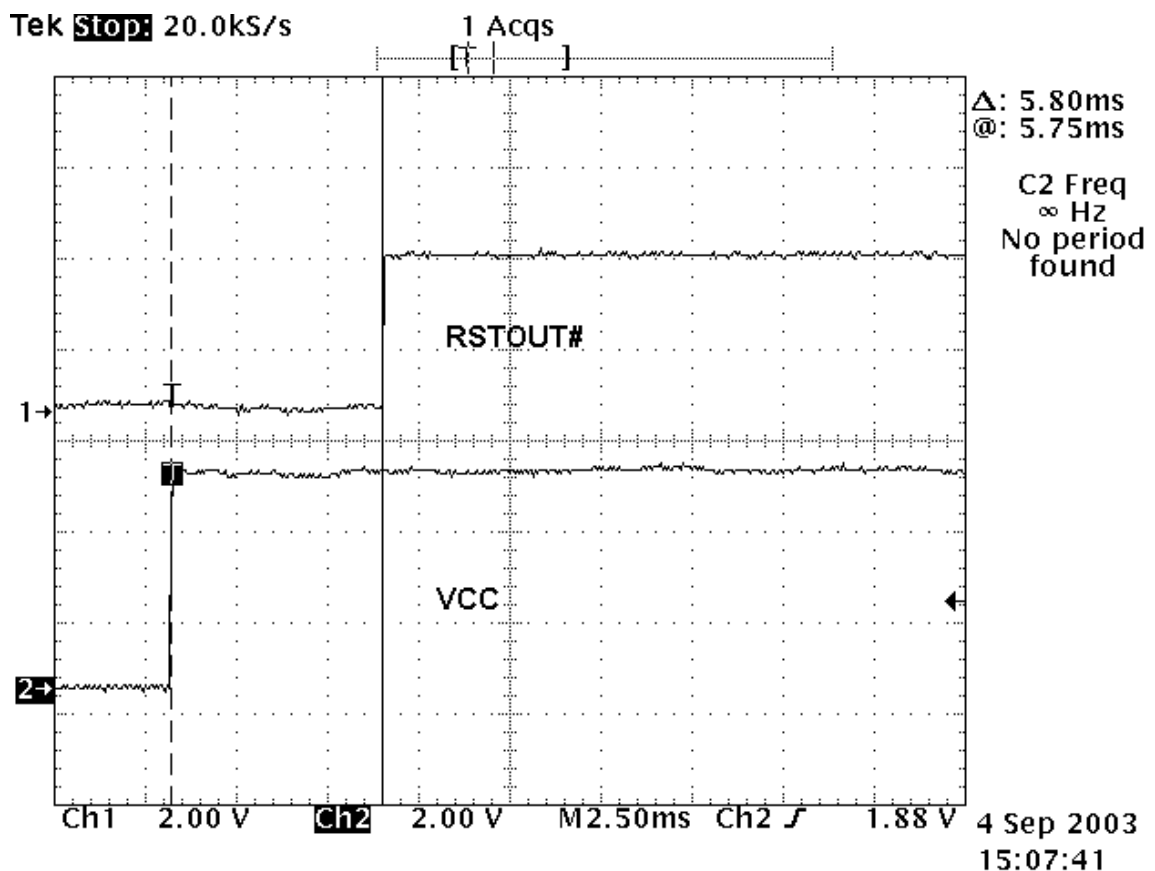

Figure 2. - RSTOUT# will go high 5.6 milliseconds after Vcc is applied.
1. Pin 4, RESET# being held low or floating. While RESET# is held low, the RSTOUT# signal will drive low to prevent the 1.5K ohm pull up resistor on USBDP from going high. This 1.5 K ohm pull up resistor on USBDP to the 3.3 Volts on RSTOUT# is used by the system to detect that a device is present. The system can detect that a high speed device has been connected by looking for USBDP being pulled high (USBDM is pulled high for a low speed device). If RESET# is tied to VCC then RSTOUT# will go high when the oscillator has become stable. You can tell when the chip has come out of reset as RTSOUT# will go high (3.0 - 3.6V). The chip will continue to stay in reset for 5.6 milliseconds after RSTOUT# goes high. This is shown in Figure 2.